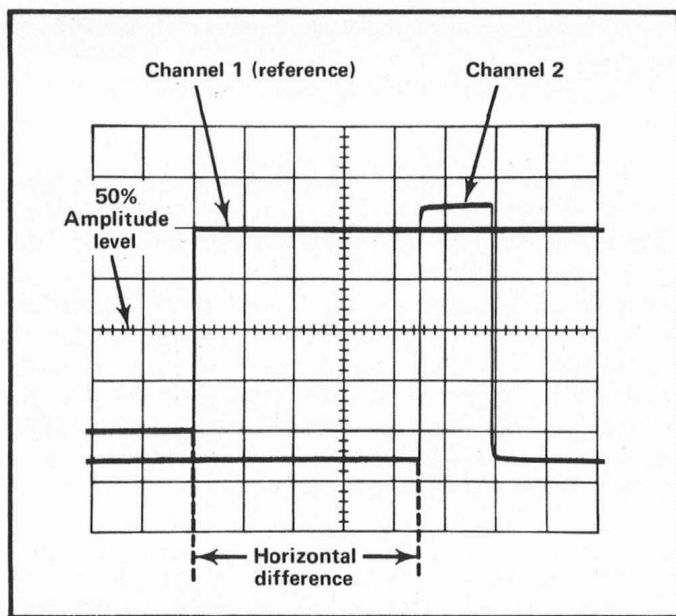

Fig. 6. Measuring time difference between two pulses.
11. Measure the horizontal difference between the Channel 1 waveform and the Channel 2 waveform (see Fig. 6).
Example. Assume that the TIME/DIV switch is set to $50 \mu s$, the MAG switch to X10 and the horizontal difference between waveforms is 4.5 divisions (see Fig. 6).